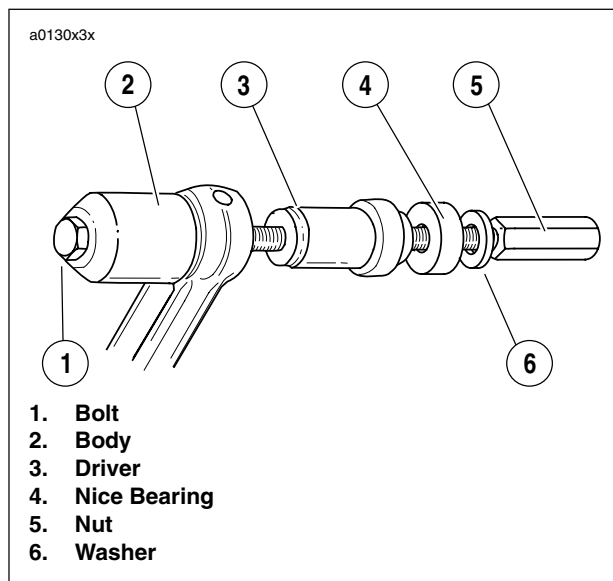

Figure 3-77. Piston Pin Bushing Tool Assembly for Bushing Removal
2. See Figure 3-77. Attach PISTON PIN BUSHING TOOL (Part No. HD-95970-32D) to the connecting rod. The receiver cup fits on one side of the rod while the driver fits on the opposite side as shown.